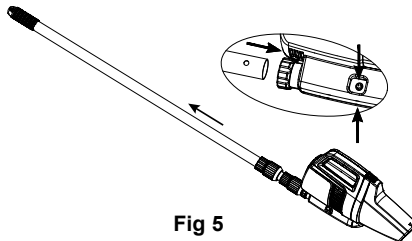

Fig 5
4. Attach the aluminum pole (8) by squeezing the spring buttons and inserting into handle of the vacuum body (1). Check the buttons "pop" into the holes. Adjust the length of the shaft by unlocking, extending and locking each section accordingly. See fig 5.